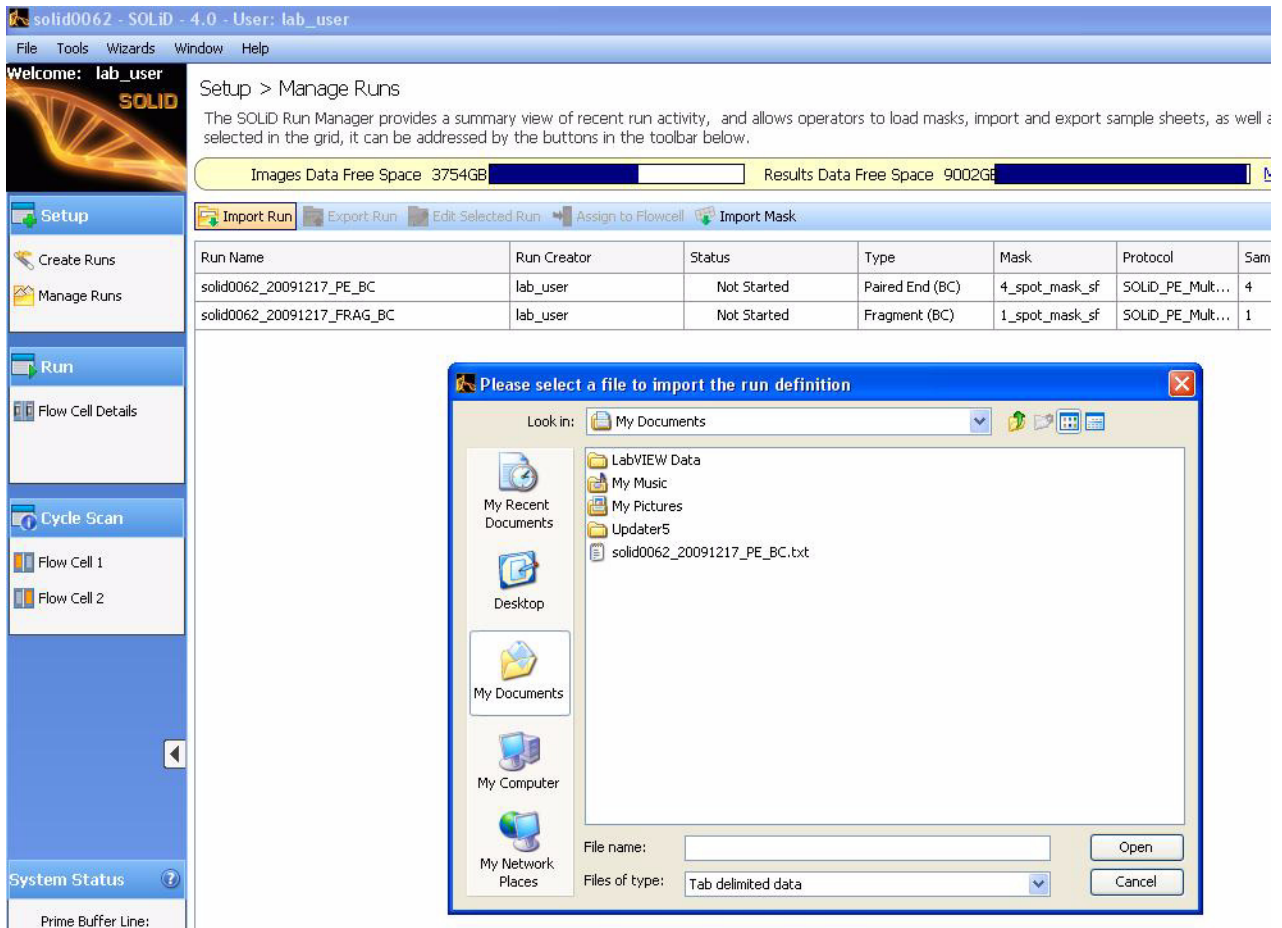

Figure 78 Import the run definition file.
11. Click **Import Run** and select the run definition file you modified with scalc (see Figure 78).